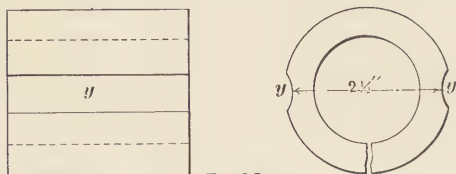
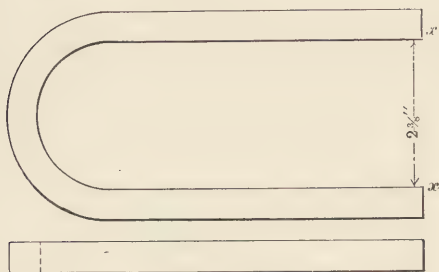

Fig. 36
Fig. 37
**Turnbuckle or Swivel.**—Directions will first be given for the swivel, since the same steps are followed in making a turnbuckle. First select a piece of flat stock and bend into a collar like the one in Fig. 36, with the ends separated at *A* by about  $\frac{1}{8}$  inch, this distance depending somewhat upon the size of swivel that is to be made. This collar is to form the threaded part of the swivel. Cut a groove *y y* on each side of
the collar. Now take a piece of round stock of the size required for the yoke, and bend as in Fig. 37, making the distance  $x x$  between the two ends  $\frac{1}{8}$  inch less than the distance  $y y$  between the grooves of the collar in Fig. 36. This is so that when the yoke is sprung over the collar ready for welding it will stay